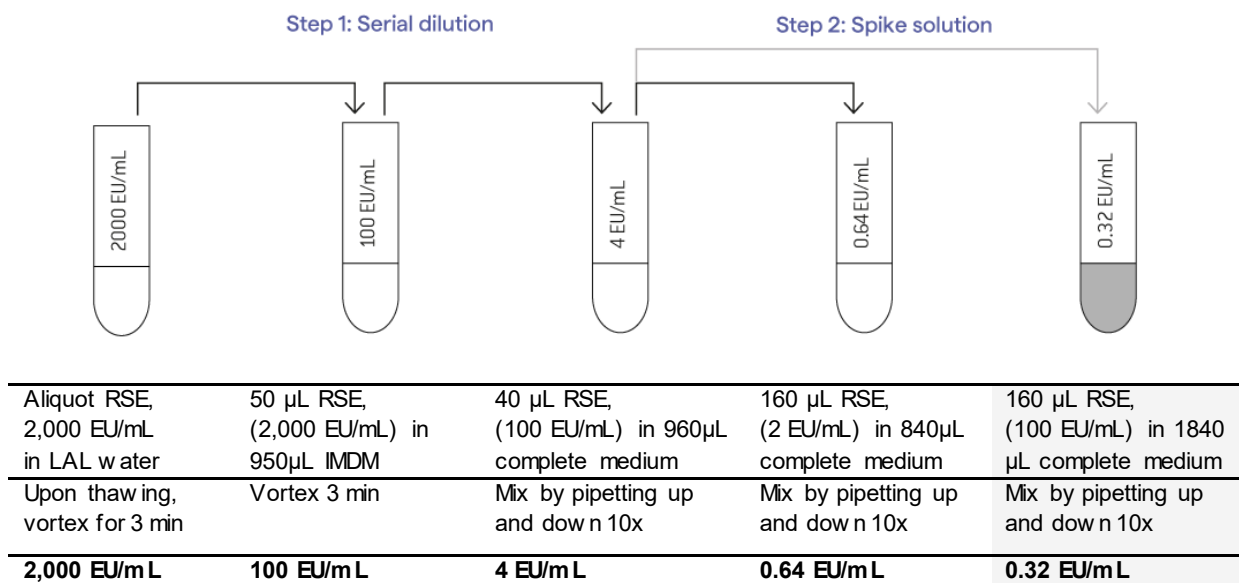

Fig. 6B: Serial dilution, prepare 0.64 EU/mL endotoxin dilution and 0.32 EU/mL spike solution.
Prepare a dilution series starting at 0.64 EU/mL with two-fold dilutions down to 0.04 EU/mL (0.64 – 0.32 – 0.16 – 0.08 – 0.04 EU/mL), and a blank in sterile, non-pyrogenic borosilicated glass tubes (# N207). An example for a dilution series is shown in **Fig 6B** below:
8. Save the remaining 4 EU/mL RSE solution prepared at step 2 for preparation of endotoxin spiked samples (see section 5.3.3 and **Fig. 6B**).